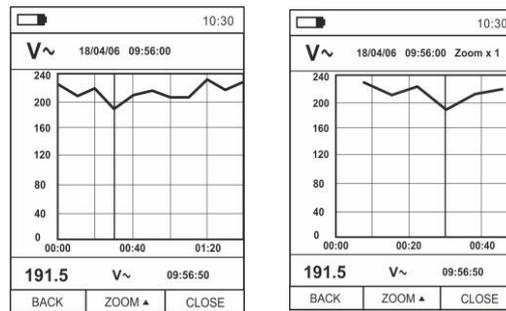

Fig. 39: Data logger function – Display of recording graph
17. Press key **MODE (TREND)** to display the graph of the recording and the relevant trend over time (Trend). The screen in Fig.39– left side appears on the display:
19. Press key ▲ (**ZOOM**) to activate (if available) the Zoom of the values on the graph (see Fig.39 – right side) in order to increase resolution. The indication “Zoom xY” in which Y = max zoom dimension appears at the top of the display. You can zoom X1 for at least 10 measuring points, X2 for at least 20 measuring points, X3 for at least 40 measuring points and so on, for maximum 6 zooming operations.